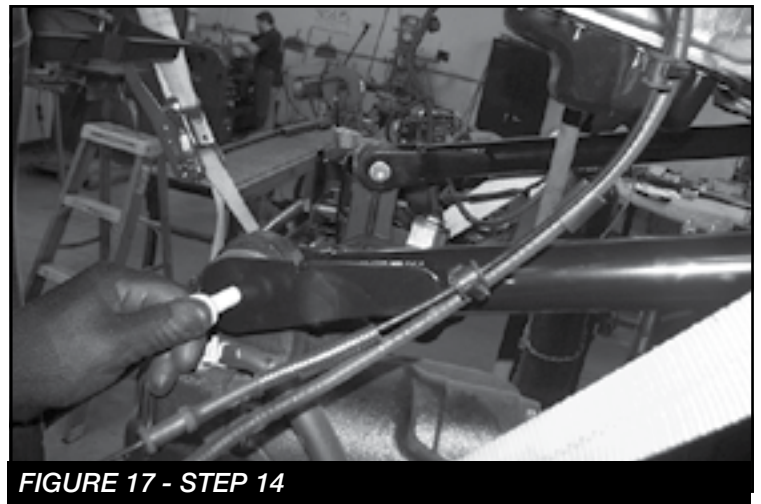

**FIGURE 15 - STEP 12**
12. Install the other end of the lower link to the axle mount using the factory bolt. **SEE FIGURE 15**